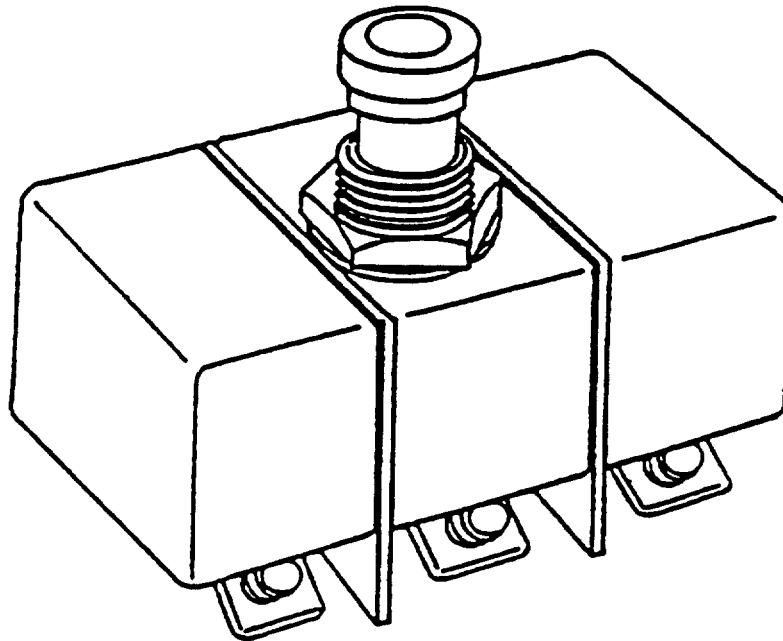

Figure 2. Typical 3-phase Circuit Breaker
20. **Multipole.** A multi-phase circuit breaker has two or more poles controlled by a single-actuating member. It may be used on a multi-phase circuit such that an overload on an individual phase will cause the circuit breaker to open all phases of the circuit. Usually, operating limits and performances are different than single phase circuit breakers. Figure 2 shows a typical multi-phase circuit breaker.